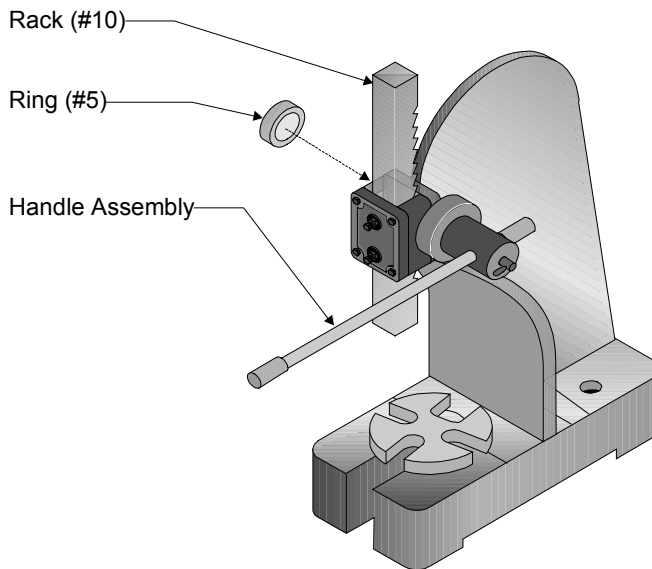

Figure 5 -- Attaching the Ring
6. Slide the RING (#5) onto the protruding end of the GEAR as shown in Figure 5. Tighten the SCREW (#4) on the RING to secure the GEAR and Handle Assembly.